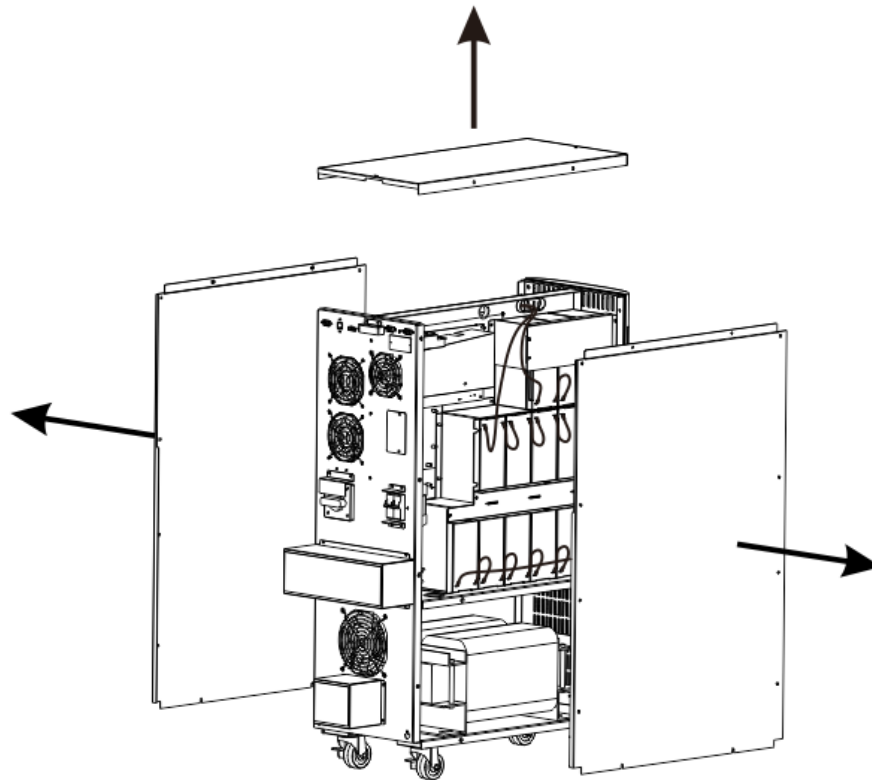

FIG. 1
7. Remove the top cover and set aside. (**FIG. 1**)